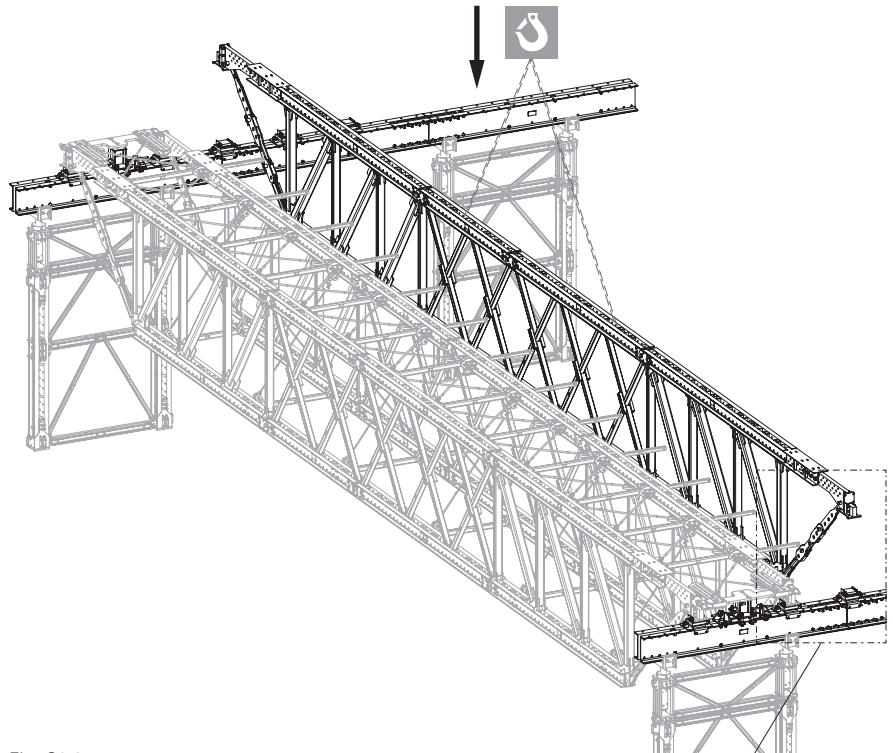

Fig. C2.01
4. Fly in the single truss and position above the main beams (40). (Fig. C2.01)